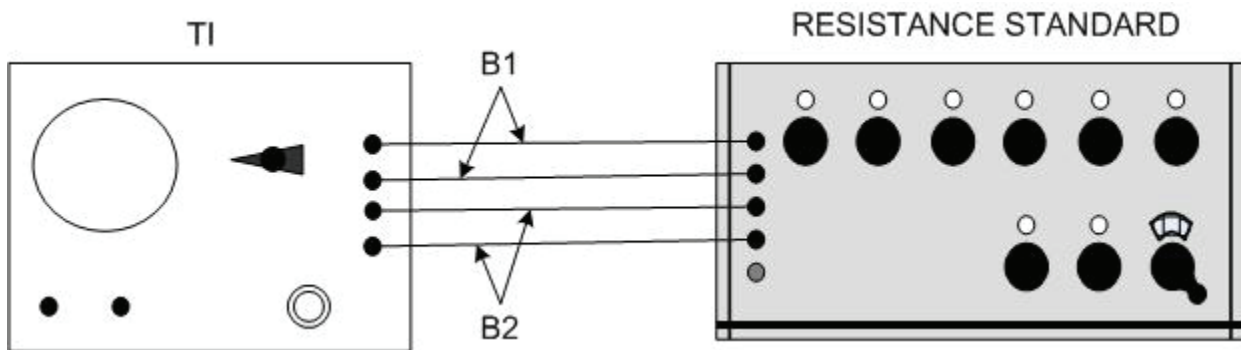

Figure 1. Low resistance - equipment setup.
- b. Connect equipment as shown in figure 1.